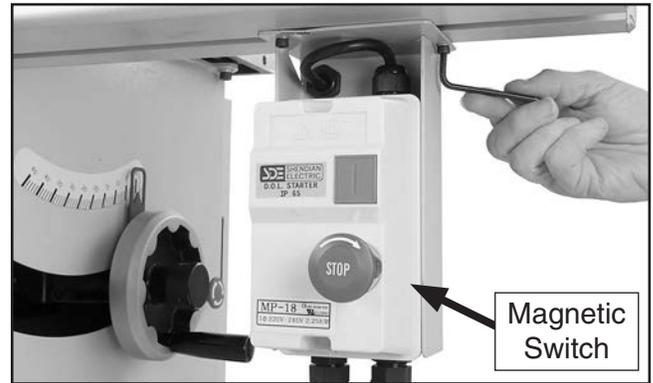

Figure 19. Magnetic switch installed.
- Thread (2) M5-.8 x 12 cap screws with 5mm lock washers through the switch bracket and into the sliding table base (see **Figure 19**), then tighten the cap screws.